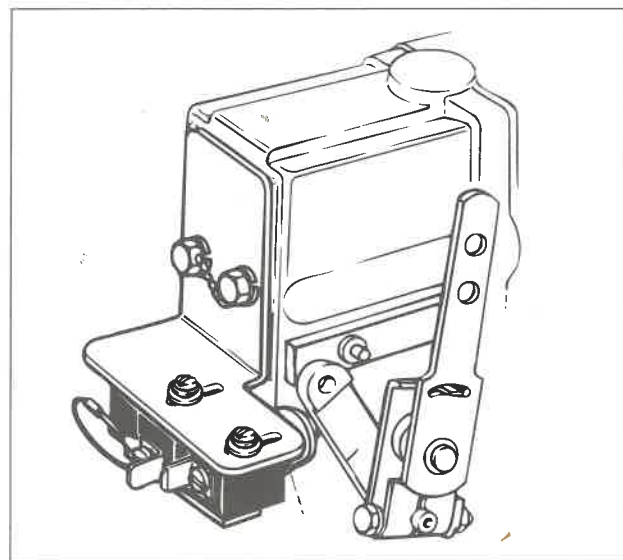

FIG. 27
1. Refer to Fig. 27 and remove the two screws, washers and cover plate from the rear of the fuel pump.